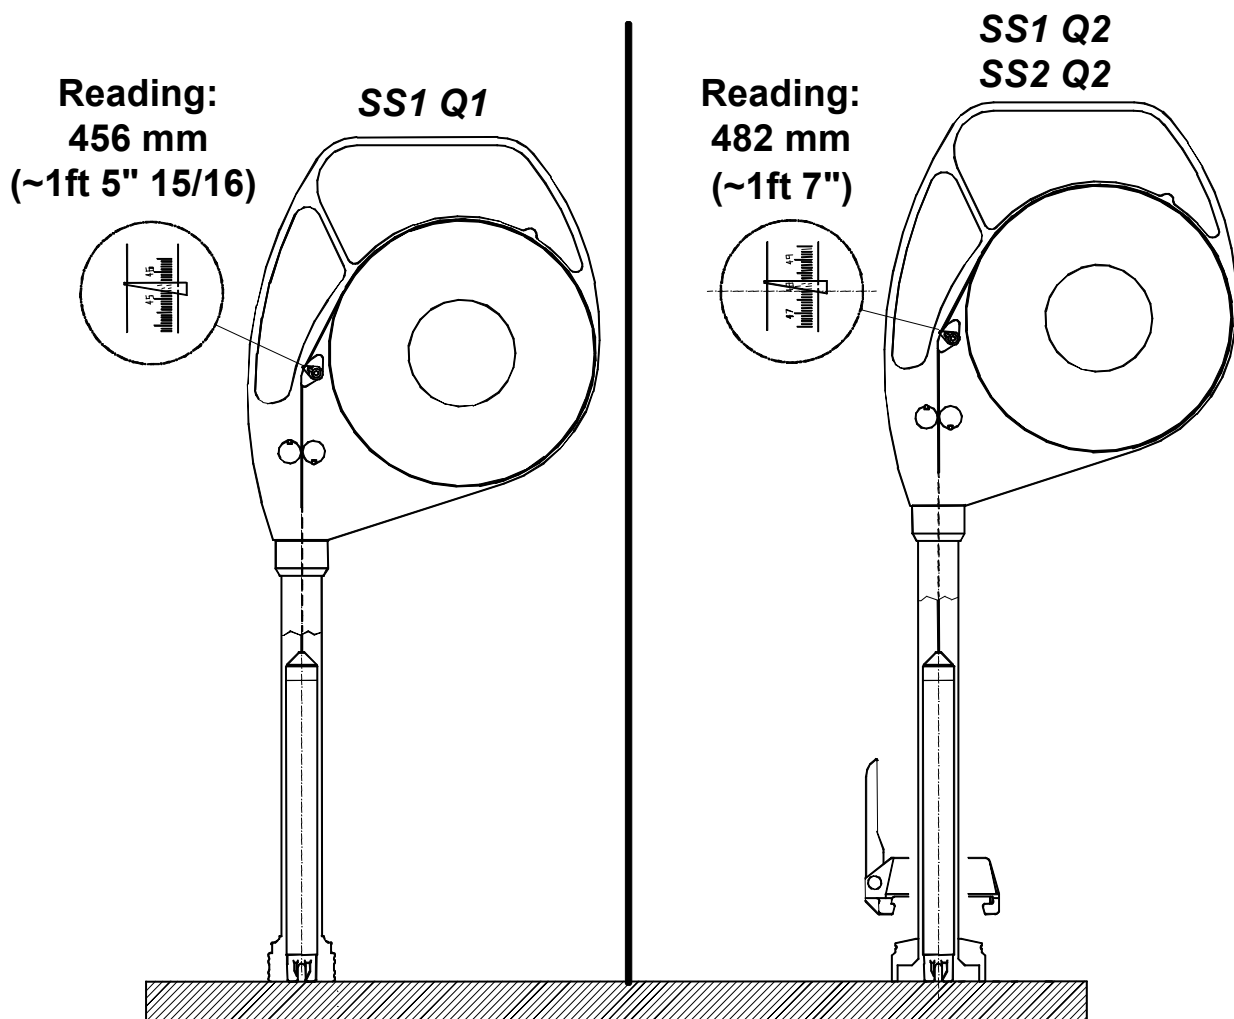

Figure 9-12
- if the equipment is fitted with a 2" connector (Q2) remove the clip and the collar as shown on Figure 9-12;
- gently lower the tape until the sensor touches the surface (Figure 9-12);
- adjust the index to the value corresponding to the connector Q1 or Q2, as shown on Figure 9-12;